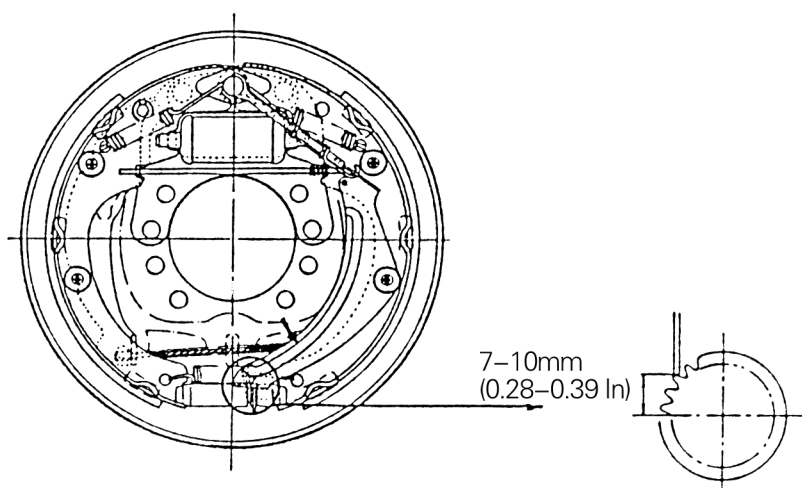
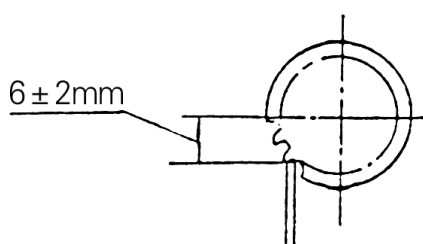

Fig. 8-26
Fig. 8-27
(1) Make the brake shoe diameter approach the specified mounting size, and pull the adjusting lever with your finger along the arrow marks as shown in Fig.8-26 to turn the adjuster gear. When removing off your finger, the adjusting lever should return to its original position without rotation of the adjuster gear.
(2) If the adjuster fail to do the above operation when the adjusting lever is pulled, proceed with the following inspection:
b) Check to see if the adjusting lever and adjuster gear are correctly arranged. (See Fig.8-26 for 2 ton trucks and Fig.8-27 for 3, 3.5 and 3.8 ton trucks) If necessary, replace them. Also check if the adjusting lever is in contact with the gear.